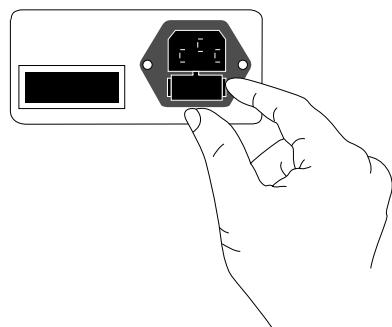
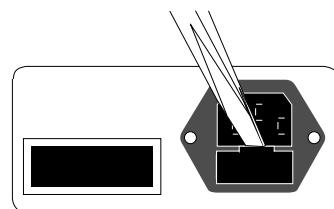

Figure 25
Figure 27
You may have one of two types of fuse holders. If the fuse holder has tabs on either side, as shown in Figure 25, follow Steps 1 to 4 to replace the fuses. If the fuse holder has a tab on top, as shown in Figure 27, follow Steps 1a to 4a to change the fuses.
1. See Figure 25. Remove the fuse holder by pinching in on the small tabs on the sides of the holder.
- 1a. See Figure 27. Use a standard screwdriver to pry the fuse holder out of the retainer.